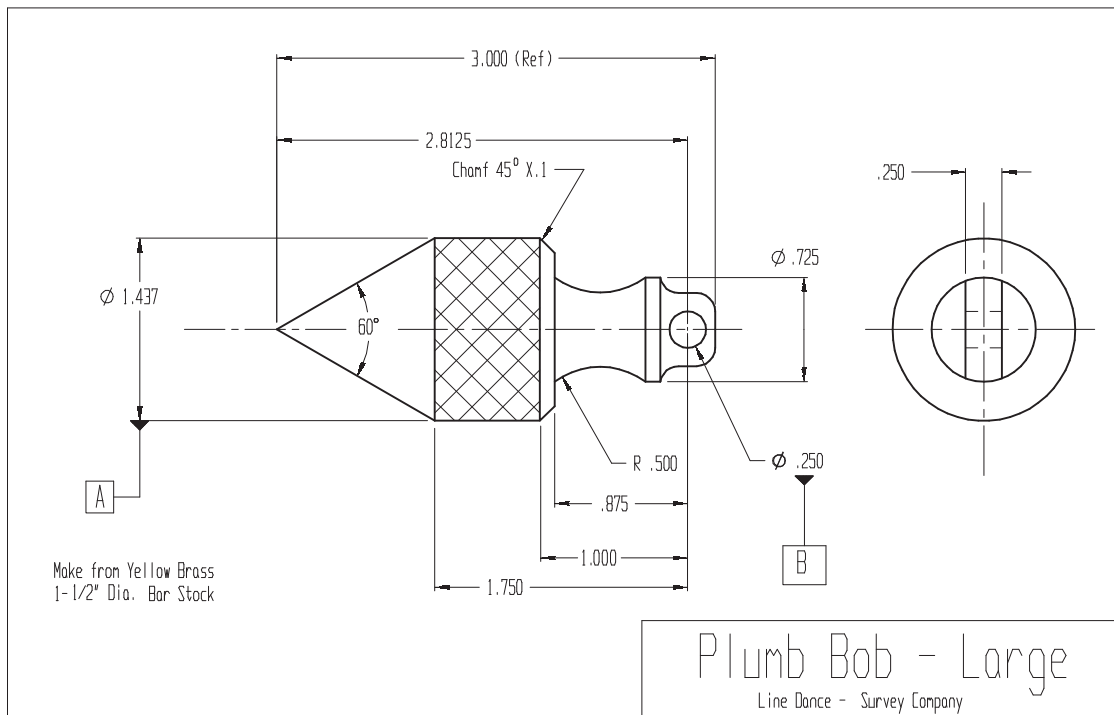

Figure 16-1 There are several different ways to plan operation sequences for this plumb bob.
You are to turn five (5) brass surveyor's plumb bobs (swinging pointers to indicate a vertical line) (Fig. 16-1). They're made from $1\frac{1}{2}$ -in.-diameter brass bar stock, a relatively expensive material. This stock doesn't fit through the lathe's spindle hole, so bar feeding and parting off isn't an option. That leaves two others: